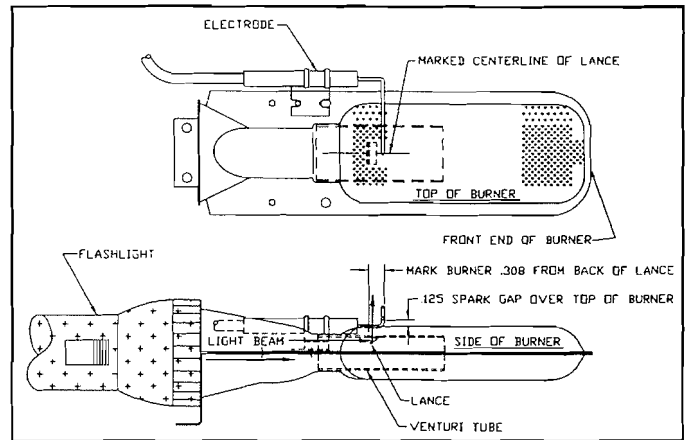

Figure 4
- Remove burner from combustion chamber by removing six (6) screws which attach the burner to the chamber and air baffles (plates).
- Light will reflect off the lance in the venturi of the burner and shine through a portion of the two (2) rolls of burner ports in the top of the burner.
- Adjust electrode so the electrode probe is positioned along the marked center line of the burner lance and the tip of the electrode terminates  $3/16"$  from the back of the lance. (At the line marked in Step 2-c.) (See Figure 4.)